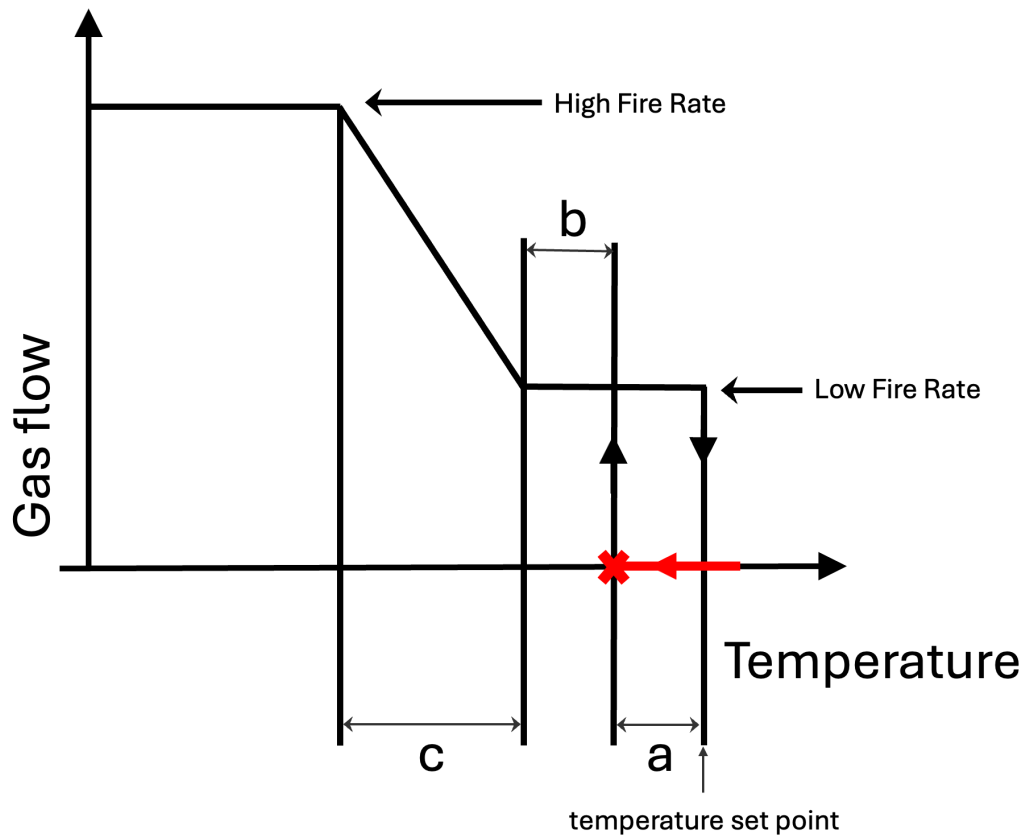

Figure 85. Snap/modulating gas flow
The gas flow and temperature settings have been plotted in Figure 85 to better understand the operating sequence:
- Figure 85. “Snap/modulating gas flow” by BCcampus is licensed under a CC BY-NC-SA licence.